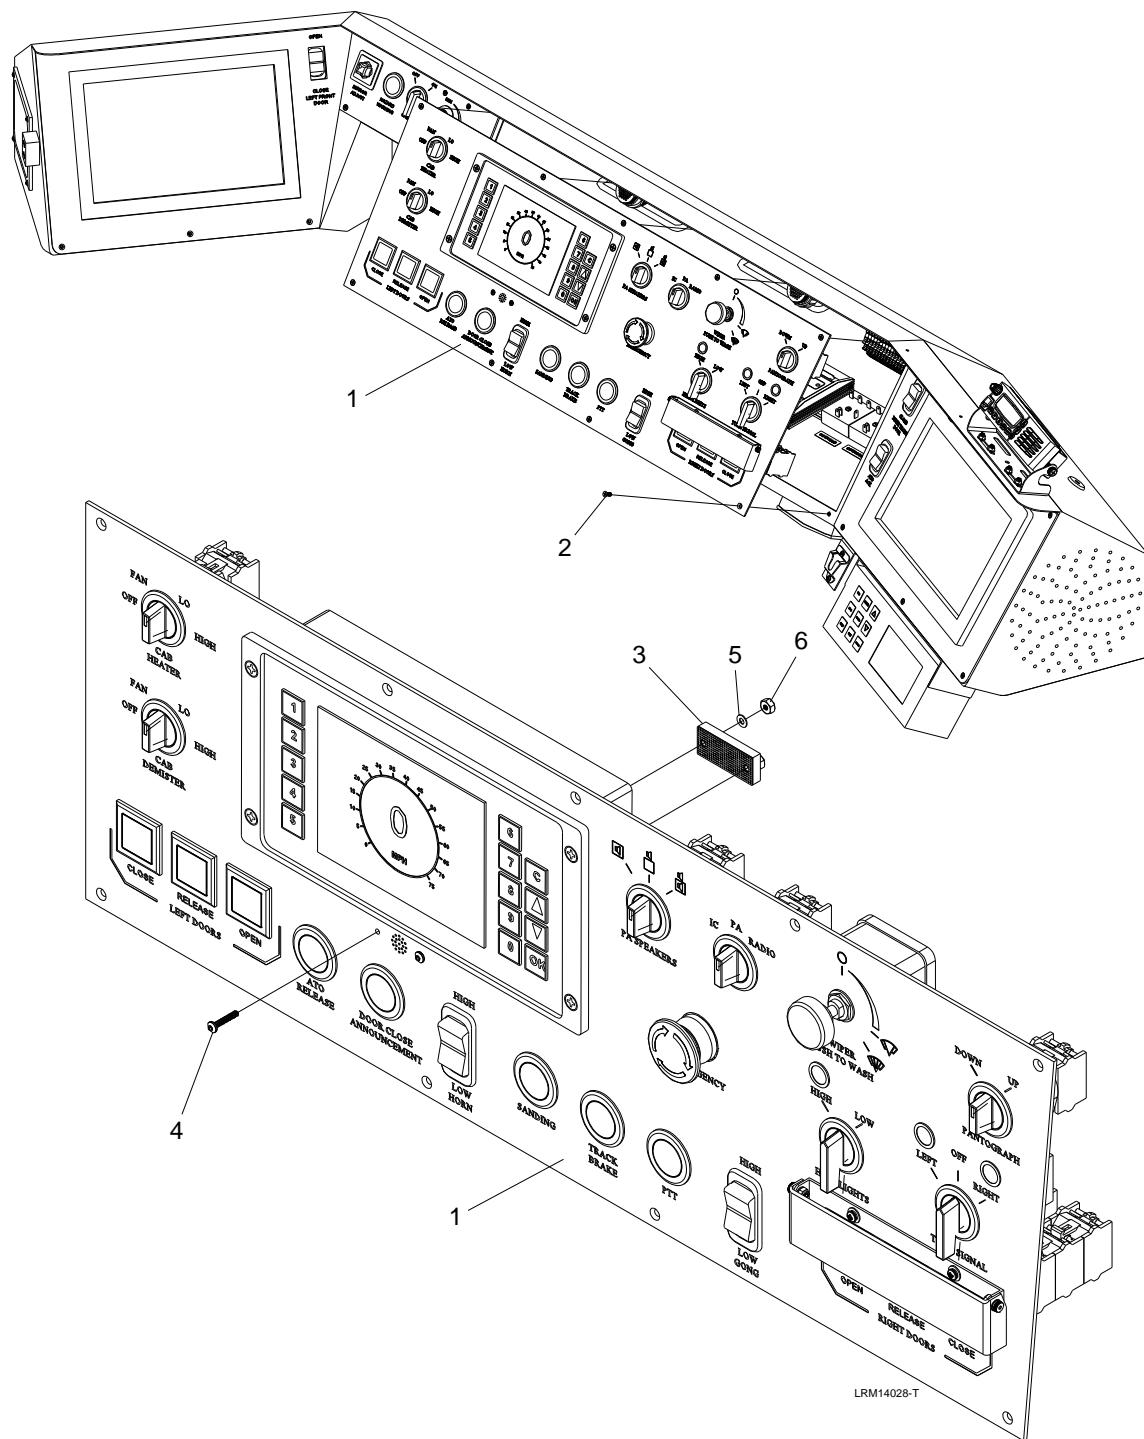

Figure 7-23: In-Dash Microphone
1. Remove the nine #8-32 flat head screws (2) from Console Panel 3 (1). See Figure 7-23.
2. Carefully remove Console Panel 3 (1) and disconnect the electrical connection.